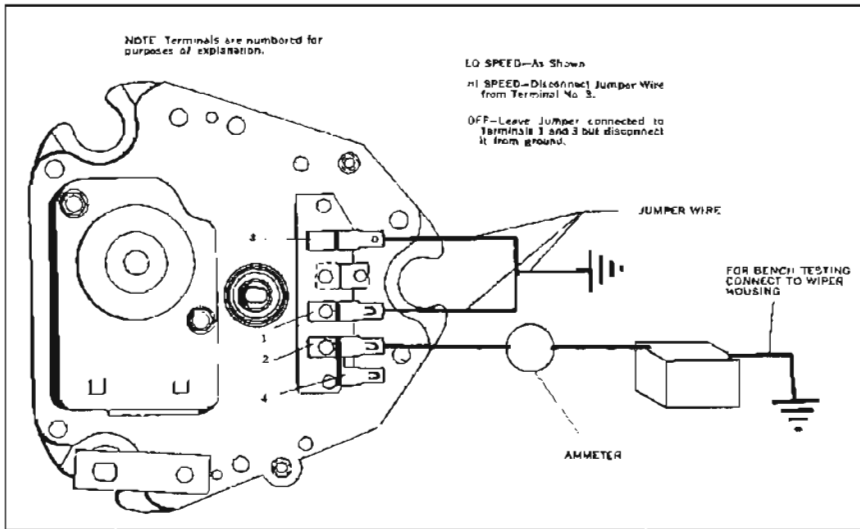

Figure 10-86—Connections to Operate Wipers
Figure 10-86 illustrates the method of connecting leads to the wiper for either bench operation or to run wiper independently of dash switch and car wiring when installed in car.
(b) With ignition switch on, check for 12 volts at harness terminal that connects to number (2) terminal (Figure 10-86).
(c) To determine if dash switch or car wiring are at fault, disconnect harness from wiper motor and try operating wiper as shown in Figure 10-86. If wiper fails to operate, remove body parts as required, disconnect transmission from wiper crank arm and recheck wiper operation. If wiper still fails to perform correctly, remove wiper from car and check wiper according to procedure under Trouble-Shooting Wiper Out-of-Car.
(b) Disconnect wiring harness from wiper motor and try operating wiper independently of dash switch as shown in Figure 10-86.
It is assumed that in many cases there is no information available to the repairman about the original wiper complaint. It is necessary, therefore, that wiper operation be checked according to the instructions shown in Figure 10-86. **IMPORTANT - Be sure and use an ammeter capable of reading at least 30 amperes in the feed wire circuit.**